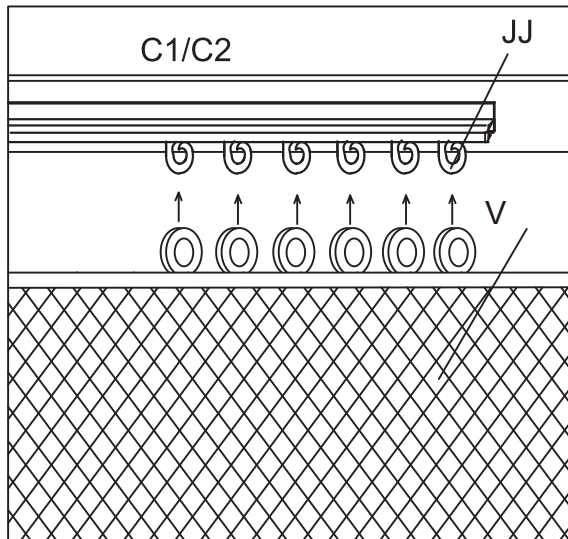

Figure 16-1
16.1: Hang the Mosquito Net (V) to the Mosquito Net Hooks (JJ). Hanging on the inner side of the track , Repeat for all sides. See Figure 16-1 .